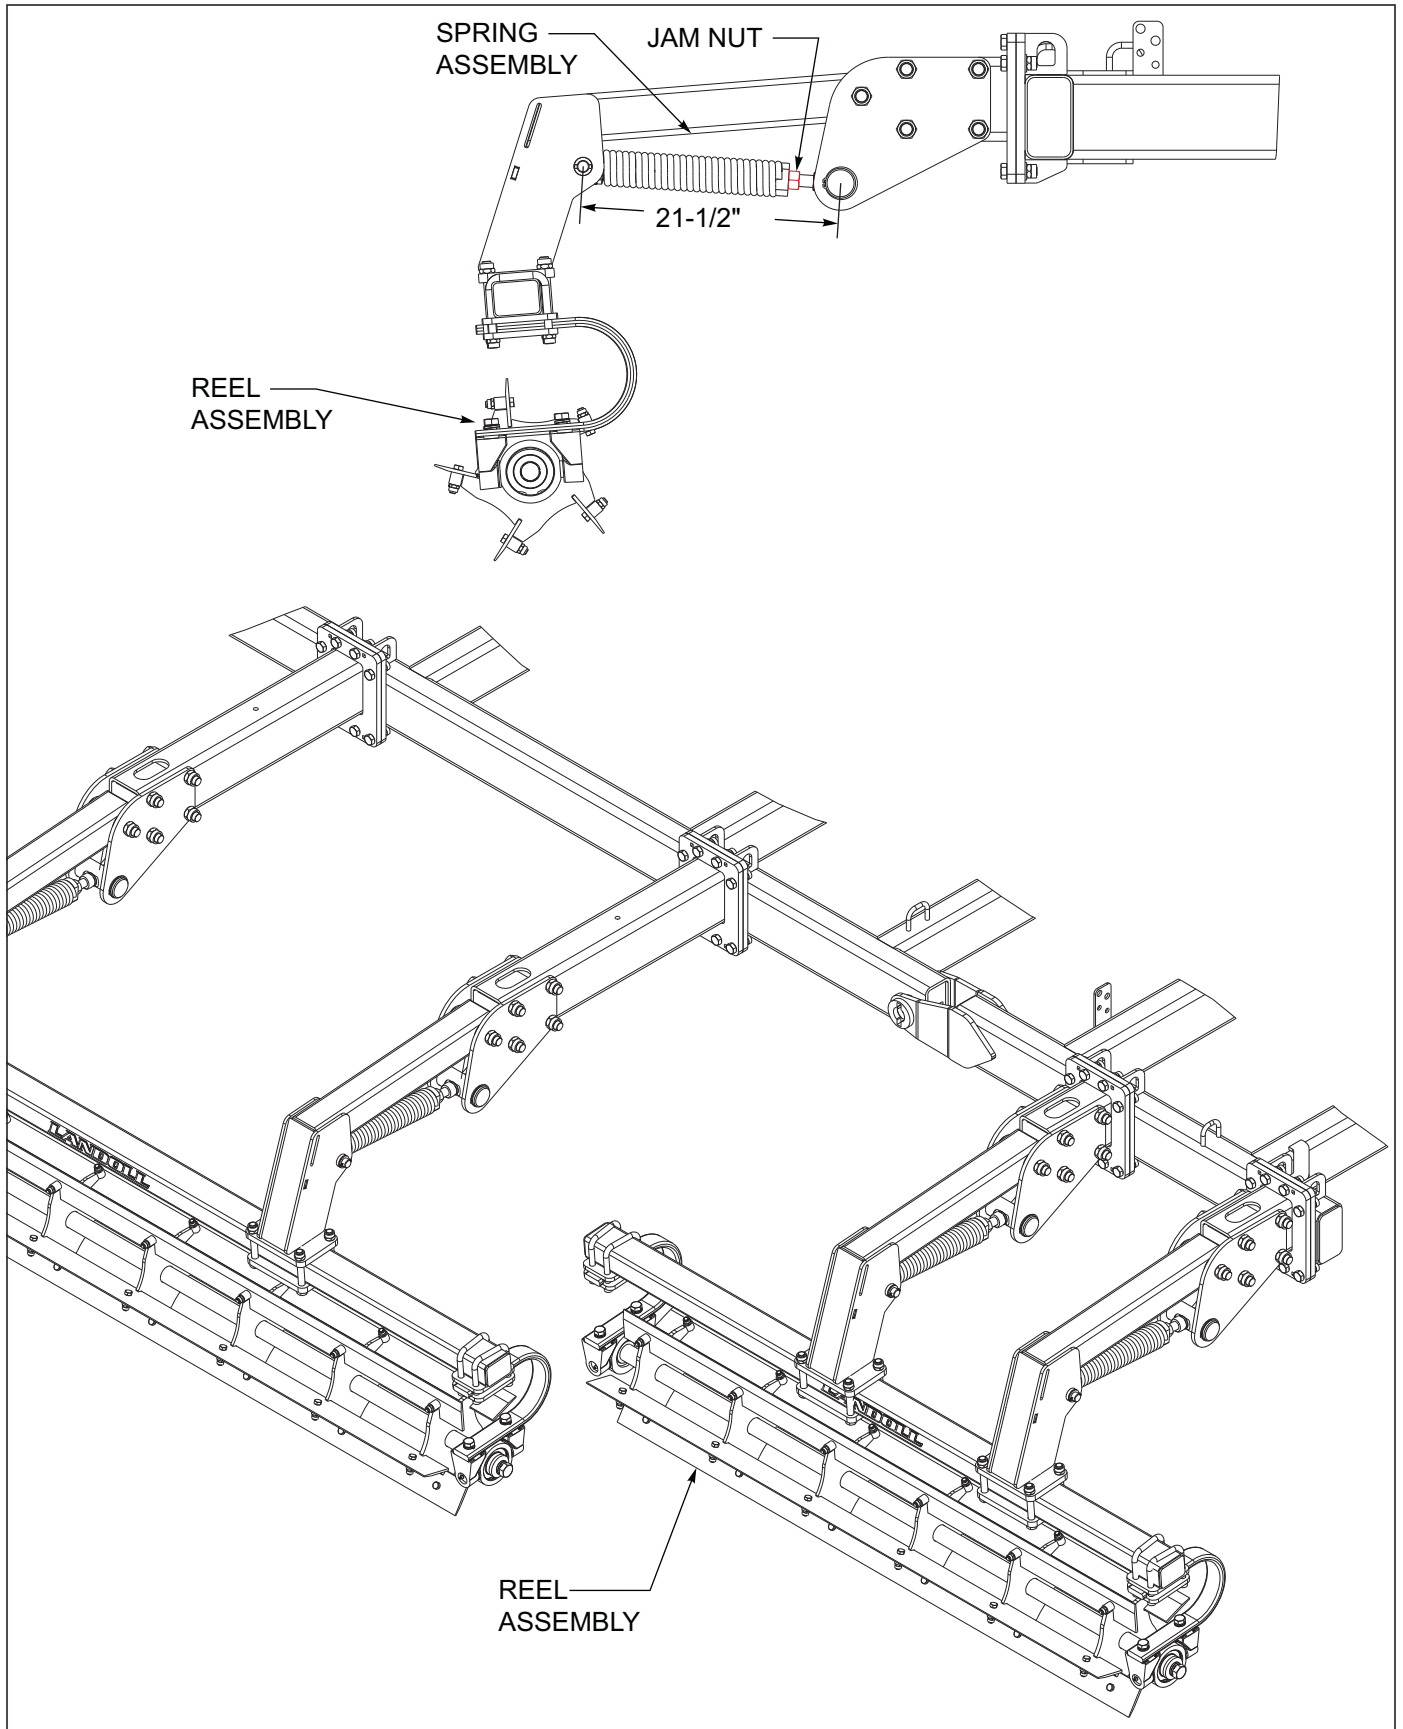

Figure 4-17: Chopper Reel Adjustments
3. Reels are set to 21-1/2" from Landoll. To adjust the reel height, loosen the locking hex nut against the threaded spring end See Figures 4-17.